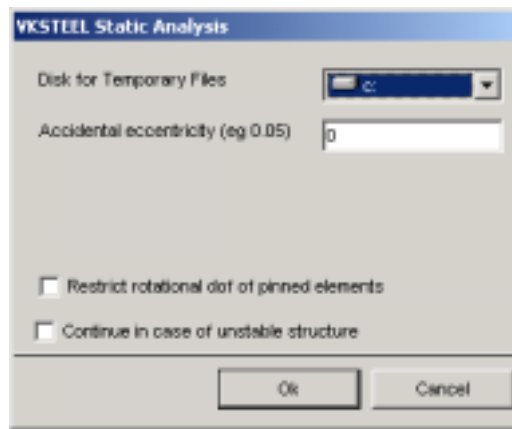

Figure 78 ANALYSIS dialogue box.
1. Choose the command Analysis >Analysis or the appropriate icon . After a few seconds, during which you are going to watch indications of the calculation that are taking place, the dialogue box of figure 78 will appear.